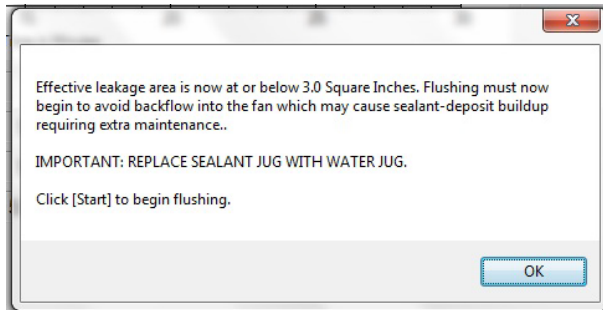

Figure 10. Flush Alert
20. If **Start** selected, software continues to monitor for leakage. The seal pauses when it reaches 3 sq. in. / 20cm². The software autoselects **Flushing**. (Figure 10)
21. When Flushing is selected, replace sealant bottle with a water bottle. (Figure 10)